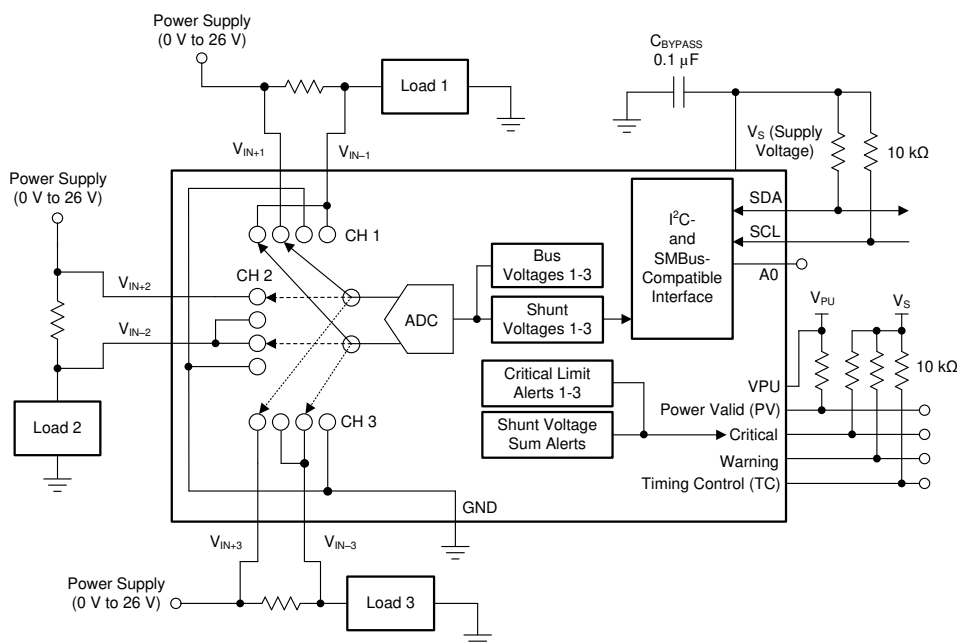

图 9-1. INA3221-Q1 as an Overcurrent Sensor
图 9-1 illustrates a typical INA3221-Q1 application circuit using all three channels. For best performance, use a 0.1- μ F ceramic capacitor for power-supply bypassing, placed as close as possible to the supply and ground pins. The digital pins (SCL, SDA, Critical, Warning, TC) are connected to supply through pull-up resistors. The power valid (PV) alert pin is connected to the VPU pin through a pull-up resistor to enable power-valid monitoring.